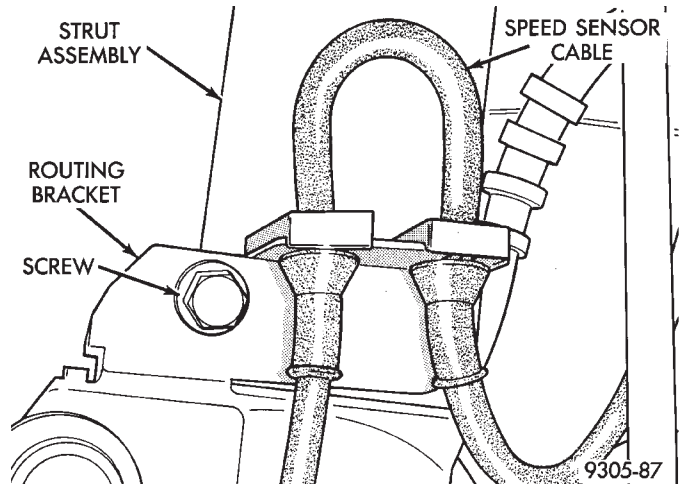

Fig. 4 Speed Sensor Cable Routing Bracket
(5) Remove the speed sensor cable routing bracket from the strut assembly (Fig. 4).